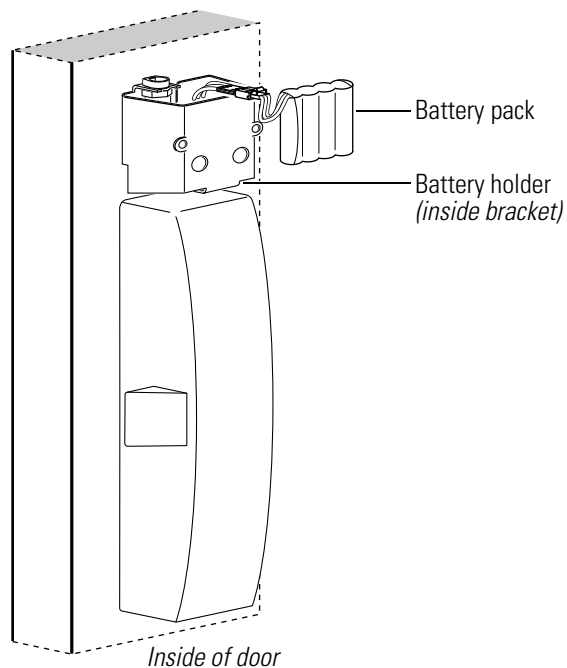

Figure 8.2 Removing and reinstalling the battery pack
1. Connect the battery pack to the battery connector on the wire harness shown in Figure 8.2.